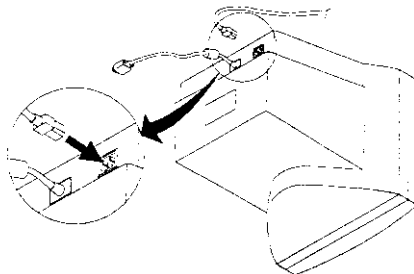

Figure 3: Connecting the Power Cord
- Locate the AC port on the rear of the monitor (refer to *Figure 3*).